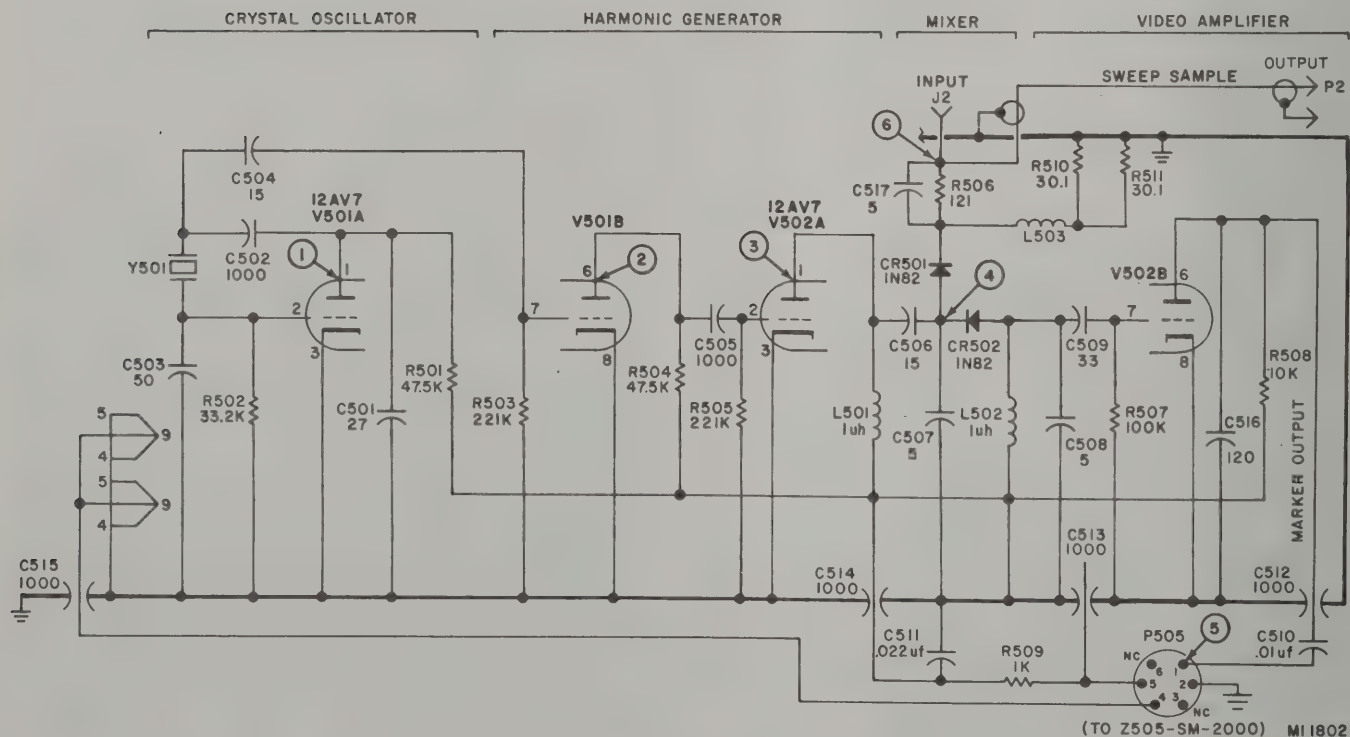

Figure 4-8. CDH 10.0 MHz X-1 harmonic marker.
(3) **10.0 MHz (figure 4-8).** This unit consists of a crystal-controlled oscillator, a harmonic generator, a mixer, and a video amplifier. The output from the crystal-oscillator-controlled section V501A is fed to a two-stage harmonic generator, V501B and V502A. V502A output is fed to the junction of dual diode mixer CR501 and CR502. Here it combines with the sweep sample originating at R206 in the junction network. The heterodyned signals are amplified in V502B and coupled through C510 to P505-1. From P505-1, the video is applied through variable resistor R507 to amplifier V502B and then to C501. The 10.0-MHz harmonics marker provides strong harmonics from 10 MHz to over 1000 MHz.